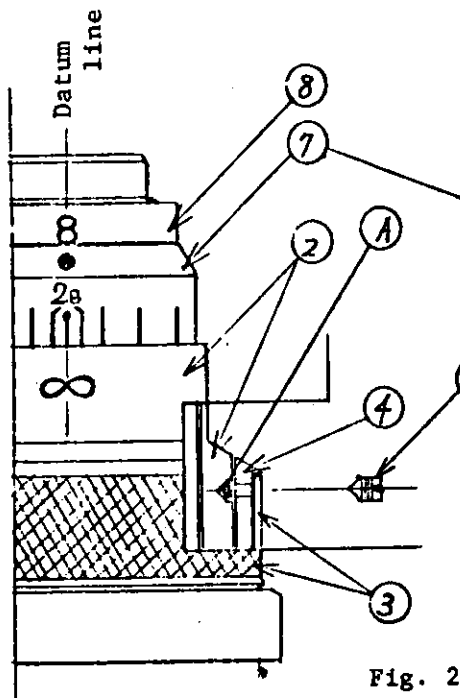

Fig. 2
Have the helicoid scale (2) slid into between the depth of field scale ring (7) and helicoid scale ring (4) and adjust them so as to have the center of infinite mark on the helicoid scale (2) and the green line of F2.8 of depth of field scale ring (7) aligned with the datum line as shown in Fig. 2, and fix them lightly at one point by means of a set screw (5). At this time, apply locktite to the set screw. (The screw must be slightly below the surface.)